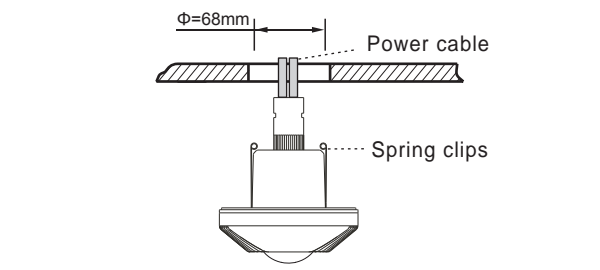

FIG.10
3.3.2.4 Insert sensor's two spring clips into the drilled hole, then push it upwards (See FIG.10).